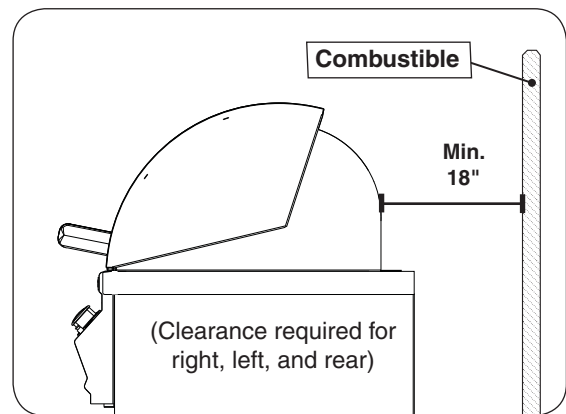

Fig. 8-3 Clearance 'C' Diagram
- The grill must have a minimum of 18" right, left, and rear clearance from any combustible wall (see Fig. 8-3).